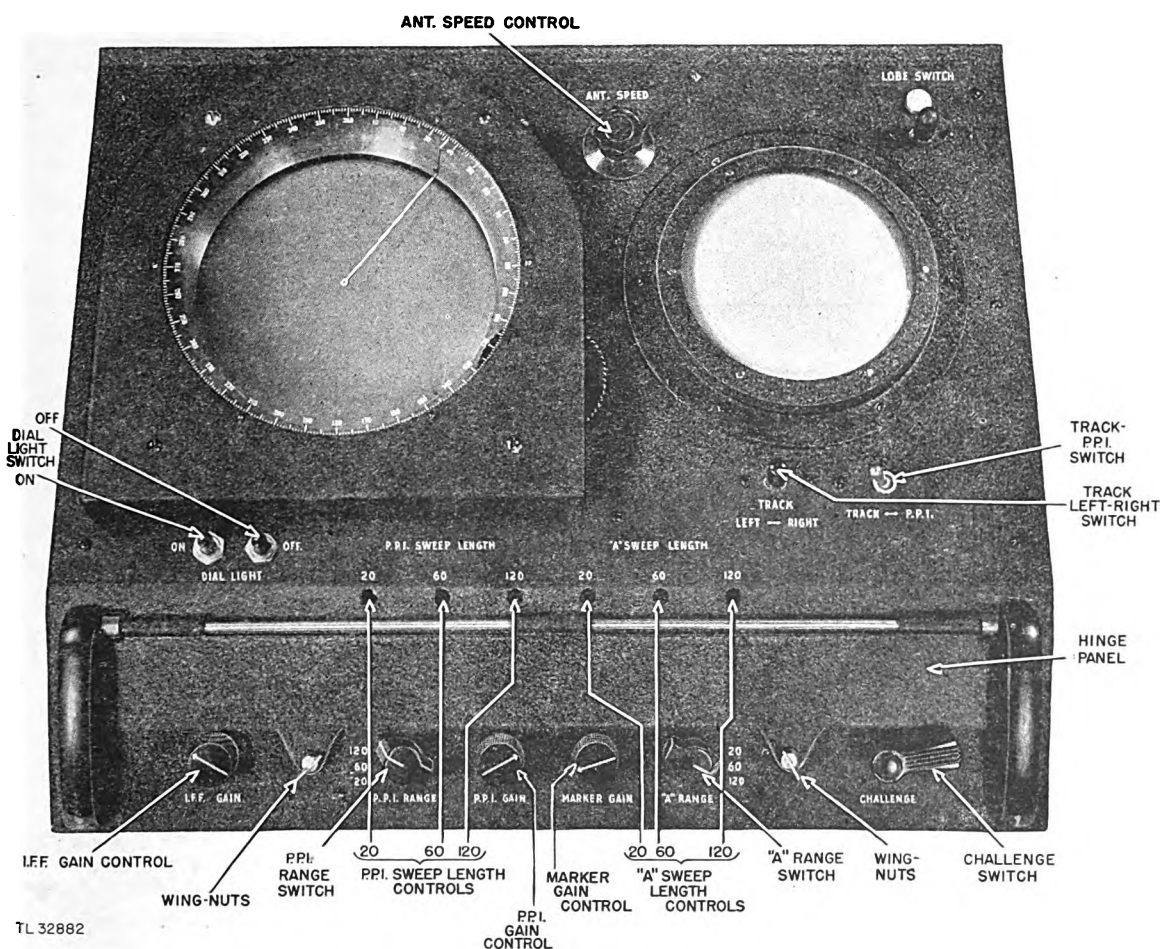
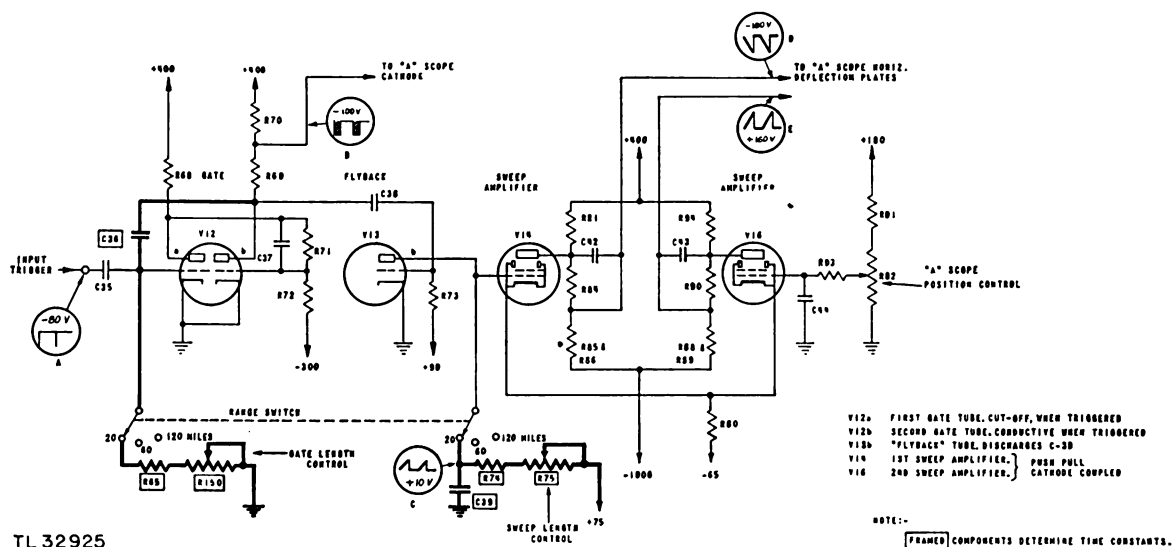

Figure 30. Indicator chassis, panel closed.
Figure 33. "A" scope sweep functional schematic.
(a) General. The negative triggering pulse from the pulse transformer is applied through capacitor C35 to the grid of the first section of tube V12 (fig. 33). Tube V12 is a start-stop type of multivibrator which produces the gate (negative square wave pulse) necessary to trigger the sweep generator tube. Normally, during the inactive portion of a cycle of operation, the first section of tube V12 is conductive while the second section is non-conductive. Tube V12b is kept at cut-off by the negative 85 volts impressed on its grid through the voltage divider network of resistors R72, R71, and R68. This high bias is necessary to keep the multivibrator from breaking into self-sustained oscillation. When the negative trigger pulse is impressed upon
(resistors in circuit with switch set at 20-mile range). See the heavy-lined portion of the circuit schematic shown in figure 33. With the high resistance in the grid circuit, the duration of the pulse is longer than with low resistance in the circuit. The reason is that the amount of time necessary for the capacitor to discharge is longer with a high resistance than with a low resistance.
(c) *Gate Controls.* To compensate for variations in the values of grid resistors, it is possible to adjust the width of the gate (the output negative square waves) by adjusting the resistance in the grid circuit of the tube V12a (fig. 33). There are three GATE CONT. potentiometers (R150, R151, and R152) supplied for this purpose, one to be used for each range (see indicator schematic, fig. 39). These are screwdriver adjustments located on a bakelite strip in the underside of the indicator chassis (fig. 98). These adjustments are usually preset, and normally need not be disturbed.
(2) SWEEP GENERATOR STAGE (fig. 33).
(b) *Sweep Length Controls* (fig. 33). The length of the sweep on the individual ranges can be adjusted by varying the SWEEP LENGTH controls, potentiometers R75, R77, or R79. See figure 39. Varying the resistance in the capacitor charging path changes the rate of charge, thereby changing the length of the sweep. The controls are screwdriver adjustments located on the front panel of the indicator (fig. 30). One control is supplied for each range.
(3) SWEEP AMPLIFIER STAGE (fig. 33).
(b) *"A" Position Control.* The grid of tube V16 is supplied with a positive d-c voltage from the horizontal centering control (fig. 33). This control, "A" POSITION potentiometer R92, varies the bias on the tube, thus changing the plate current through the tube. This in turn changes the average potential prevailing at the plate. In this manner the average potential of one deflecting plate is being changed, while the other is left constant. This shifts the sweep trace across the screen of the "A" scope without affecting the length of the sweep.
(c) *Sweep Length Controls.* The length of the sweep on the individual ranges can be adjusted by varying the SWEEP LENGTH controls, potentiometers R129, R131 or R134. See indicator schematic, figure 39. Changing the resistance in the capacitor charging path changes the rate of charge, thereby changing the length of the sweep. The controls are screwdriver adjustments located on the front panel of the indicator (fig. 30). One control is supplied for each range.